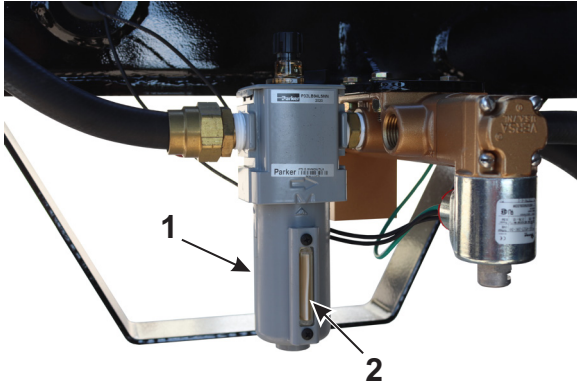

Figure 3-25 – Air Line Oiler
9. Check the air line lubricator. The air line lubricator (1, **Figure 3-25**) is located behind the manual dump gate valve.
- a. Make sure that the lubricant level is not below half way on the sight gauge (2, **Figure 3-25**).